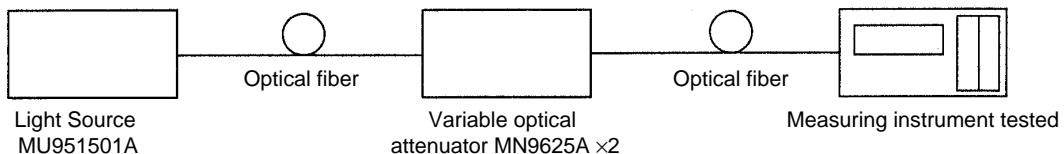

Fig. 5-7
1. Set up a measurement system like that shown in Fig. 5-7.